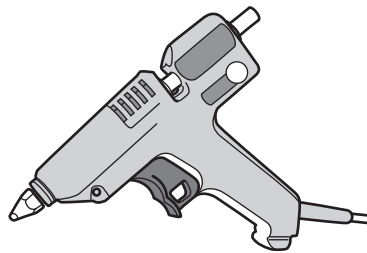

Fig. 10.1
- 10 Fig. 10.1 shows a hot melt glue gun.